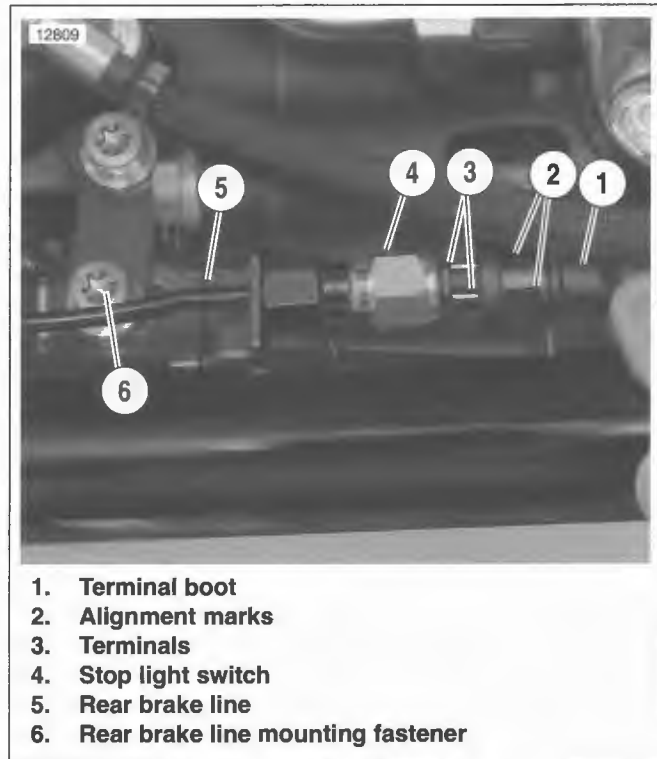

Figure 8-86. Rear Stoplight Switch
See Figure 8-86. The rear stop light switch monitors brake fluid pressure in the rear brake line. When pressure in the line reaches a preset level, the rear stop light switch is tripped and illuminates the tail light/stop light. The rear stop light switch is located on the rear brake line T-fitting.
1. See Figure 8-86. Remove terminal boot (1) from rear stop light switch (4).
3. Remove switch from rear brake line (5).
See Figure 8-86. Rear brake line mounting fastener (6) torque is 80-100 *in-lbs* (9.0-11.3 Nm).
2. See Figure 8-86. Install rear stop light switch (4) to rear brake line (5). Tighten switch to 12-15 ft-lbs (16.3-20.3 Nm).
3. Align wire harness terminals in terminal boot (1) to terminals (3) by using alignment marks (2) as a guide.